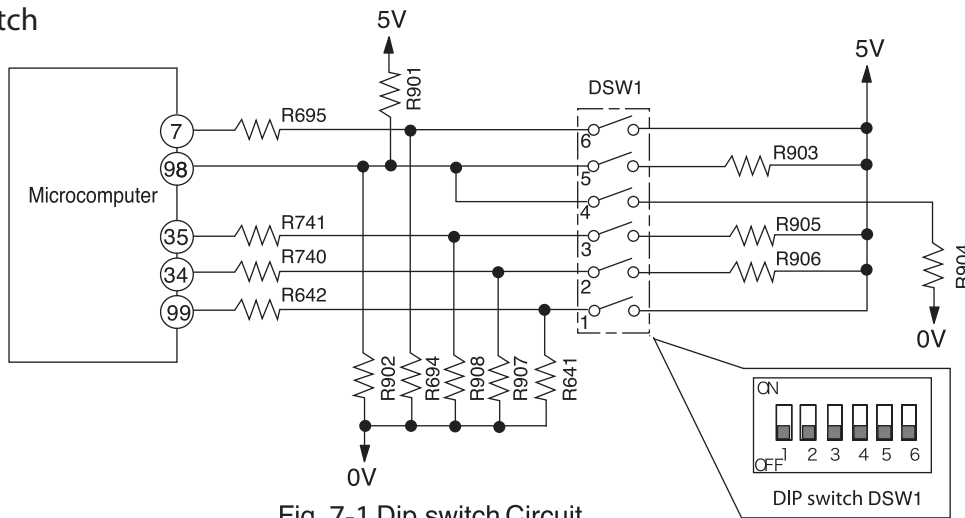

Fig. 7-1 Dip switch Circuit
- Fig. 7-1 shows the dip switch circuit; the table shown in Fig. 7-2 are function and setting position from ① – ⑥ of the switch No.